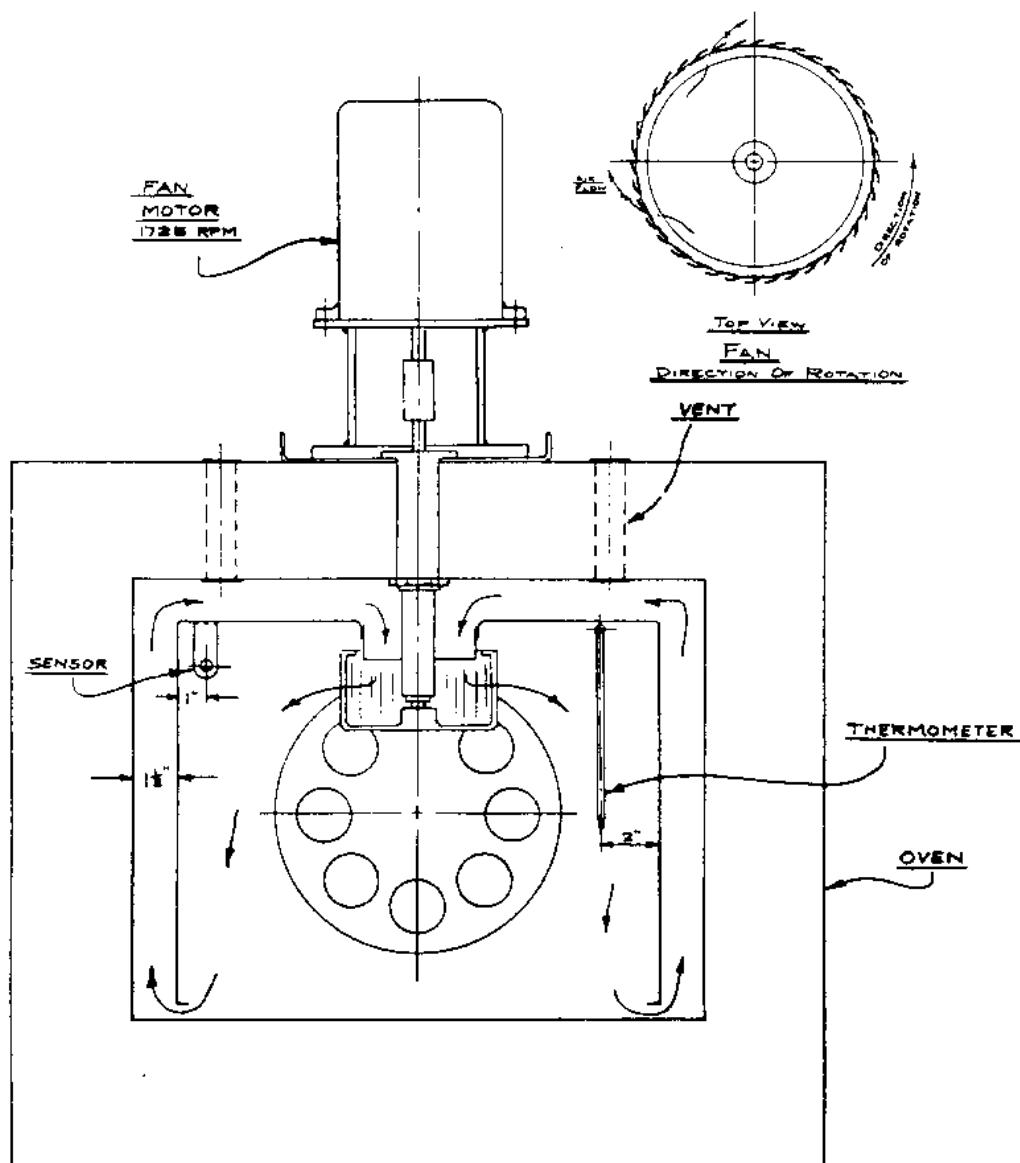

FIG. 3 Schematic of Air Flow Front View
**5.1.2** The oven shall have an air plenum covering the sidewalls and ceiling. The air space shall be 1-1/2 in. (38.1 mm) deep from the walls and ceiling. At a midpoint in the width of the oven, and 6 in. (152.4 mm) from the face of the circular metal carriage to its axis, a squirrel cage-type fan 5-1/4 in. (133 mm) OD by 2-7/8 in. (73 mm) wide shall be turned at 1725 rpm by an externally mounted motor. The squirrel cage fan shall be set so that the fan turns in an opposite direction to its vanes. The airflow characteristics of the fan-plenum system shall be suction from the floor of the oven through the wall plenums and exhaust of the air through the fan. Figures 3 and 4 show details of this plenum system.